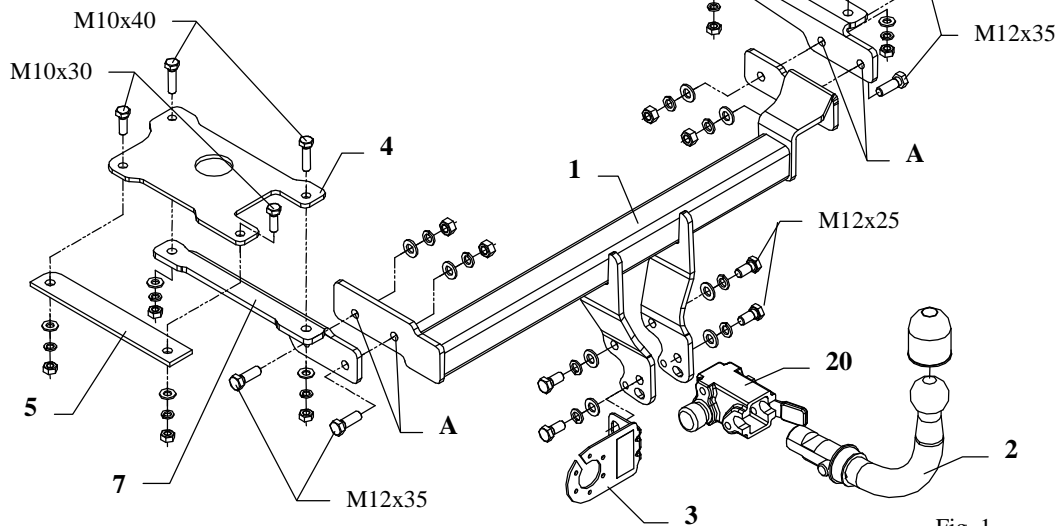
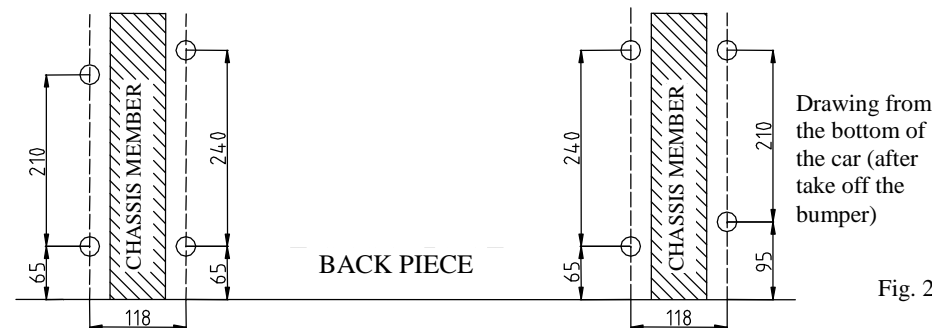

Fig. 1
Fig. 2
3. Point out holes from the bottom of the car according to the fig. 2 (above). Then drill holes $\varnothing 11\text{mm}$ (drillings fall out in places of the pressure welding of chassis members with the floor of the car) – make carefully and precisely.
4. Apply properly large fish-plates (pos. 4 and 6) onto made holes (inside the trunk).
5. Apply side brackets (pos. 7 and 8) from the bottom of the car and through large fish-plates (pos. 4 and 6) fix properly with bolts M10x40mm – pos. 11 (see fig. 1).
6. Apply fish-plates (pos. 5) from the bottom of the car and through large fish-plates (pos. 4 and 6) fix properly with bolts M10x30mm – pos. 12 (see fig. 1).
7. To side brackets through holes (pos. A) fix the main bar of the towing hitch (pos. 1) using bolts M12x35mm (pos. 10).
10. To so prepared towing hitch fix body of the automat (pos. 20) and the socket plate (pos. 3) using bolts M12x25mm (pos. 9) from accessories. Place tow-ball (pos. 2) according to supplied instruction.